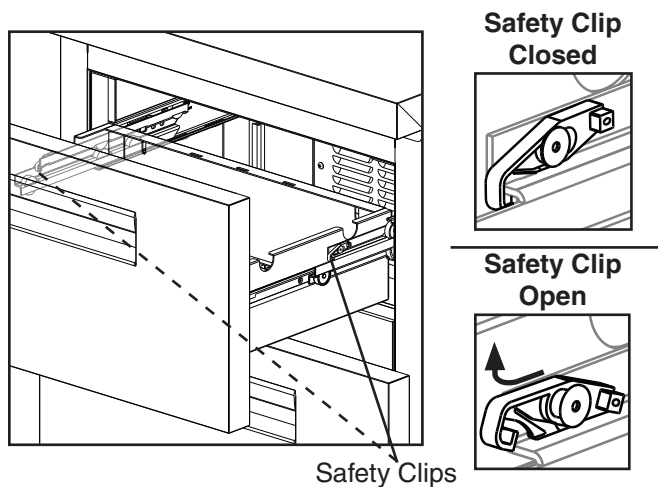

Fig. 44
- **To remove a drawer:** Remove all items from the drawer. Pull the drawer out to its fully extended position. Open the safety clips (one on each side) by sliding them forward, then rotating them up. See Fig. 44. Lift up on the handle slightly, then pull to disengage the drawer. Be sure to support the rear and front of the drawer while removing it.